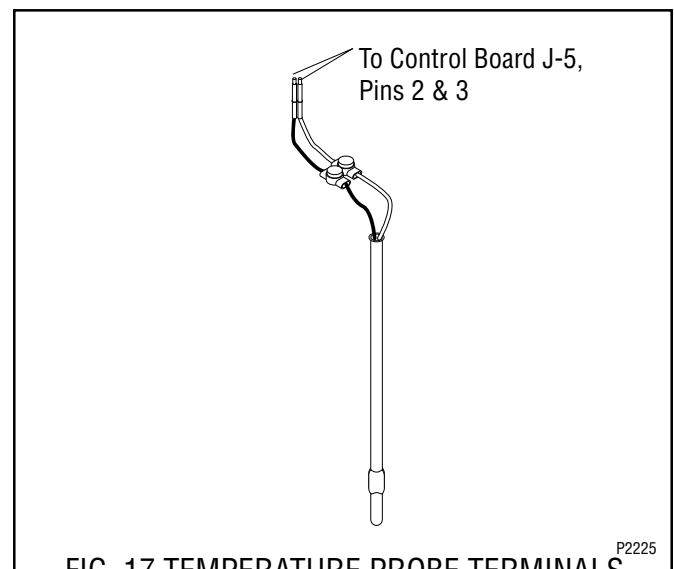

FIG. 17 TEMPERATURE PROBE TERMINALS
7. Refer to Fig. 17 when reconnecting the wires.